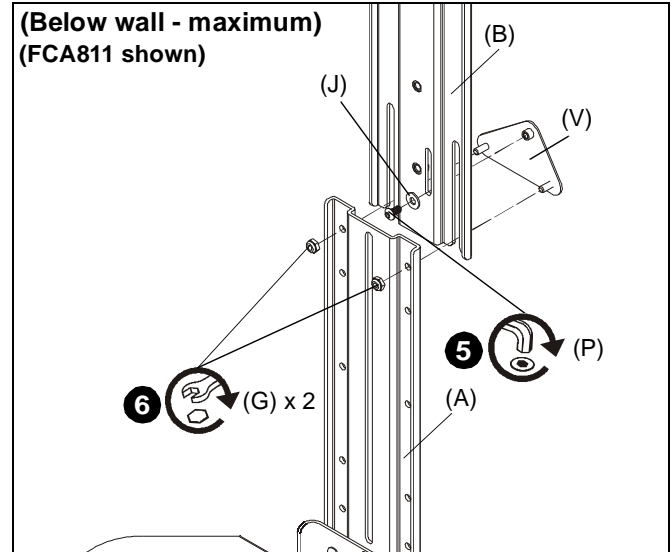

Figure 6
- (For **maximum extension**) Use #10-32 x 3/8" button head cap screw (P) and small washer (J) to secure adapter plate (V) to main bracket (B). (See Figure 6)
- (For **maximum extension**) Use two #10-24 lock nuts (G) to secure upright bracket (A) to main bracket (B) and adapter plate (V). (See Figure 6)